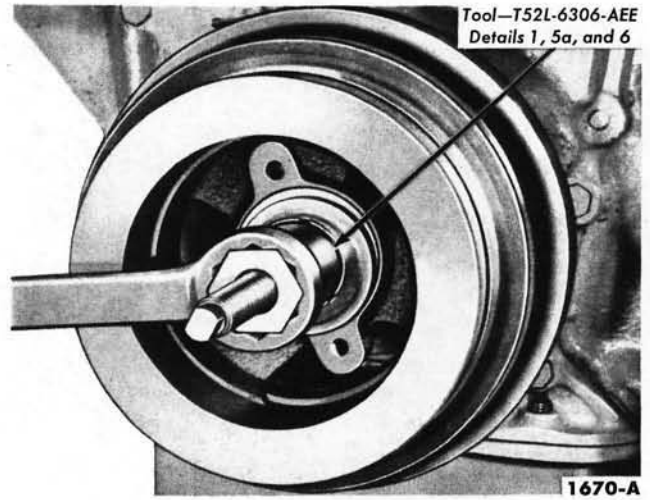

FIG. 30—Damper Installation
1. Lubricate the crankshaft with a light lead and oil mixture and lubricate the oil seal rubbing surface with grease. Align the damper keyway with the key on the crankshaft, then install the damper (Fig. 30).